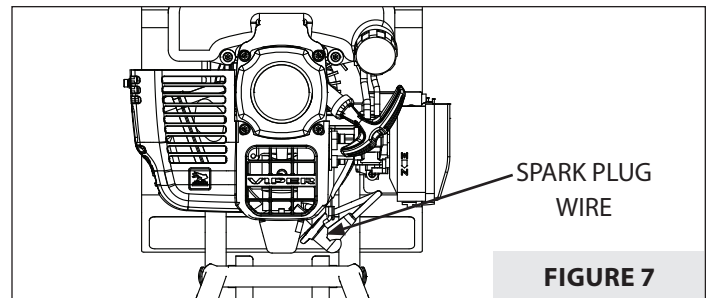

FIGURE 7
- Disconnect the spark plug wire from the spark plug. **SEE FIGURE 7.**